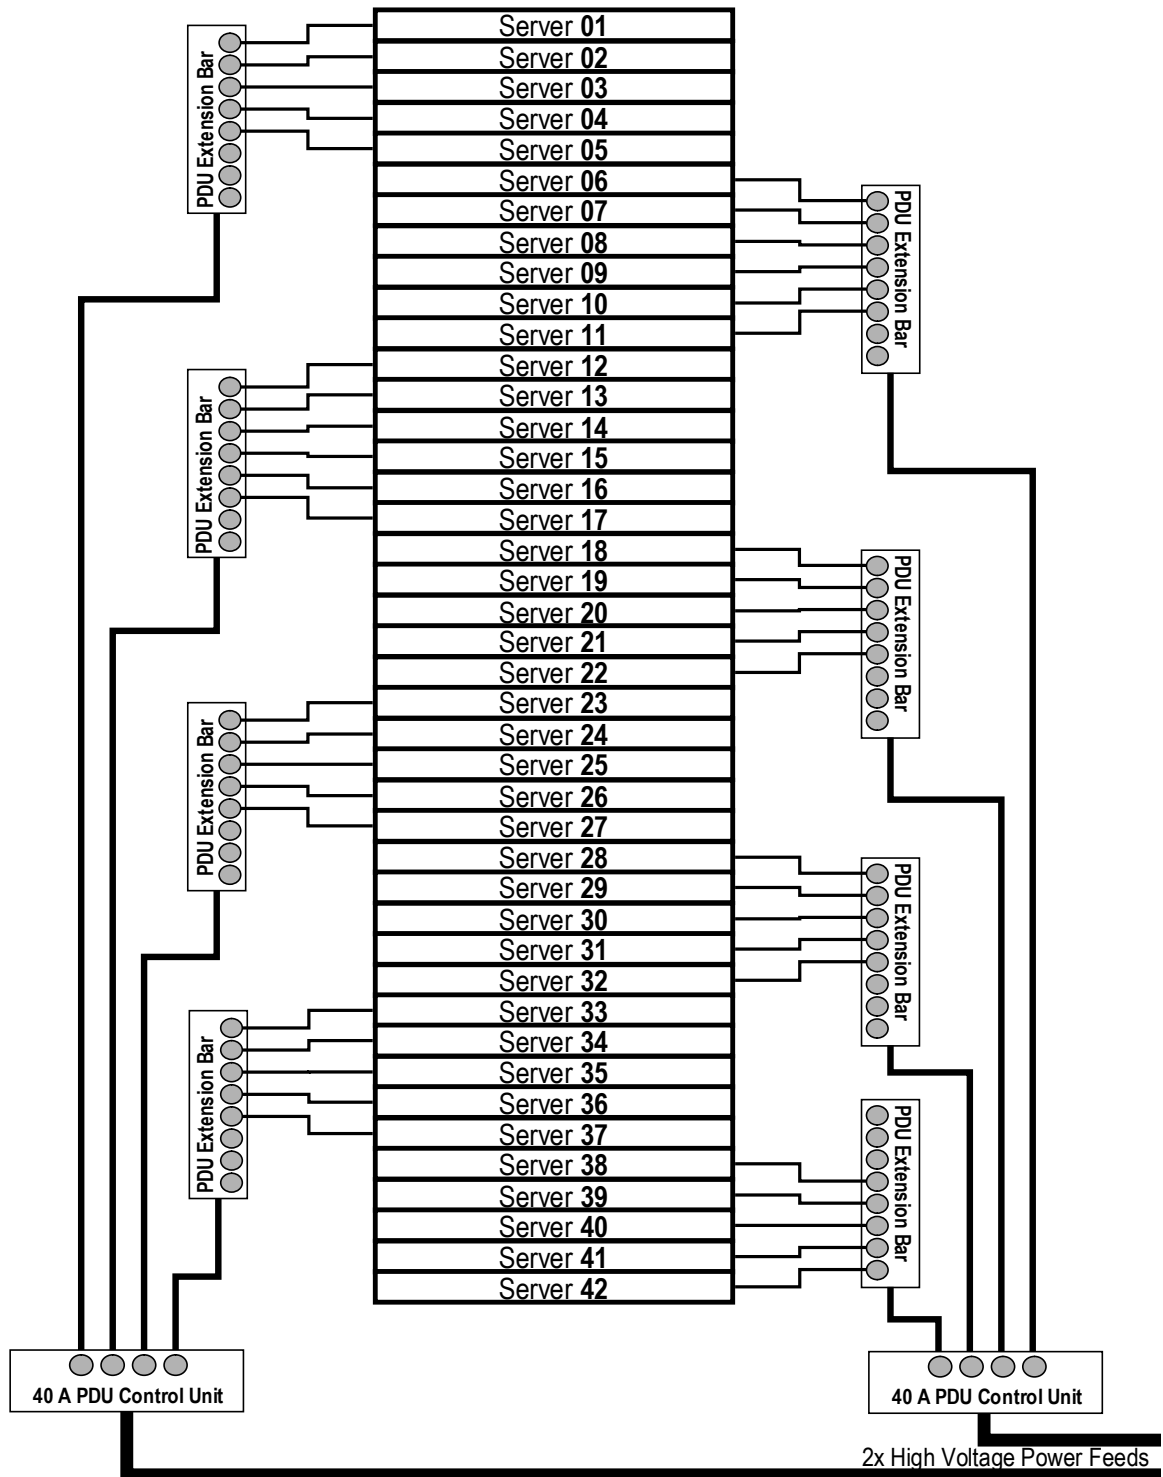

Figure 2. Configuration A (Maximum Performance Density) Power Diagram
**Note:** There are no KVM Switches used in Configuration A. The Integrated Lights-Out Advanced Pack handles all of the local consoles. See Figure 2 for the Ethernet Cable Diagram.